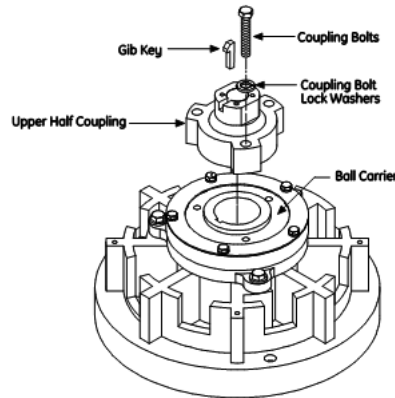

Figure 2: Non Reverse Coupling Exploded View
3. Mount the upper half coupling so that it fits flush to the ball carrier. Refer to Figure 2.
4. Install the (3) coupling bolts and lock washers as shown in Figure 2. Initially tighten one bolt "hand tight" and in a circular fashion, tighten the remaining bolts "hand tight" as well. Afterwards, tighten each bolt to the required torque value shown in Table 2.